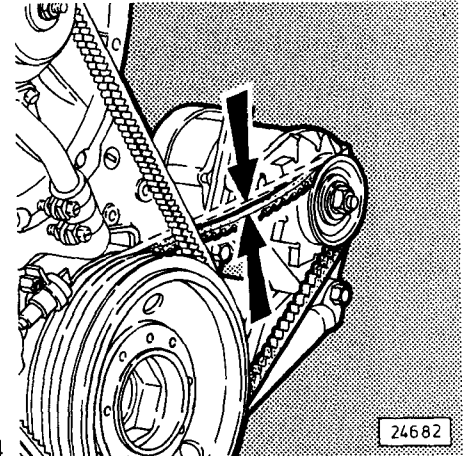

Fig. 44
- Check by pressing with the thumb (Fig. 44) midway between the pulleys to see whether the V-belt deflects inwards by max. 10–15 mm (0.4–0.6 in.).